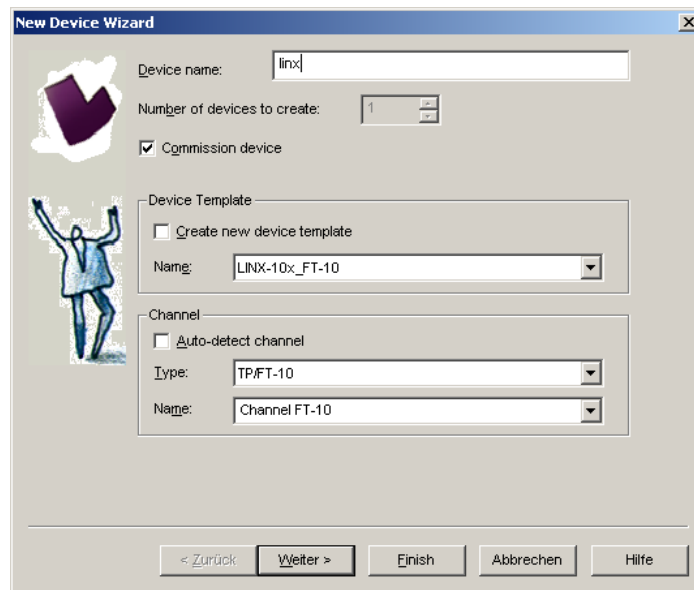

Figure 73: Create a new device in the drawing.
1. In your LonMaker drawing, drag a device stencil into the drawing. Enter an appropriate name as shown in Figure 73.